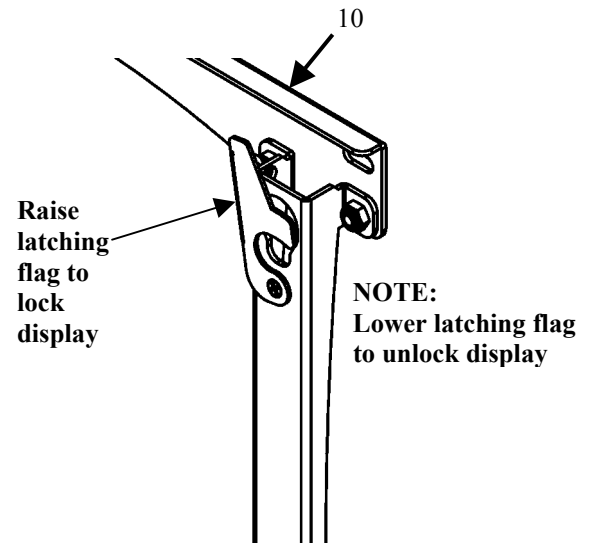

Figure 6. Latching Flag
1. With an assistant, lift the display up to the mount (10) on the wall, aligning mounting buttons on the PSB with the teardrop slots on the mount, and lower the display firmly into place.
2. Raise the latching flag (2 places) to secure the display (see Figure 6). If the flag does not fully engage, check to ensure the mounting buttons are fully seated in the slots.
2. Lower the latching flag to unlock the display (see Figure 6).